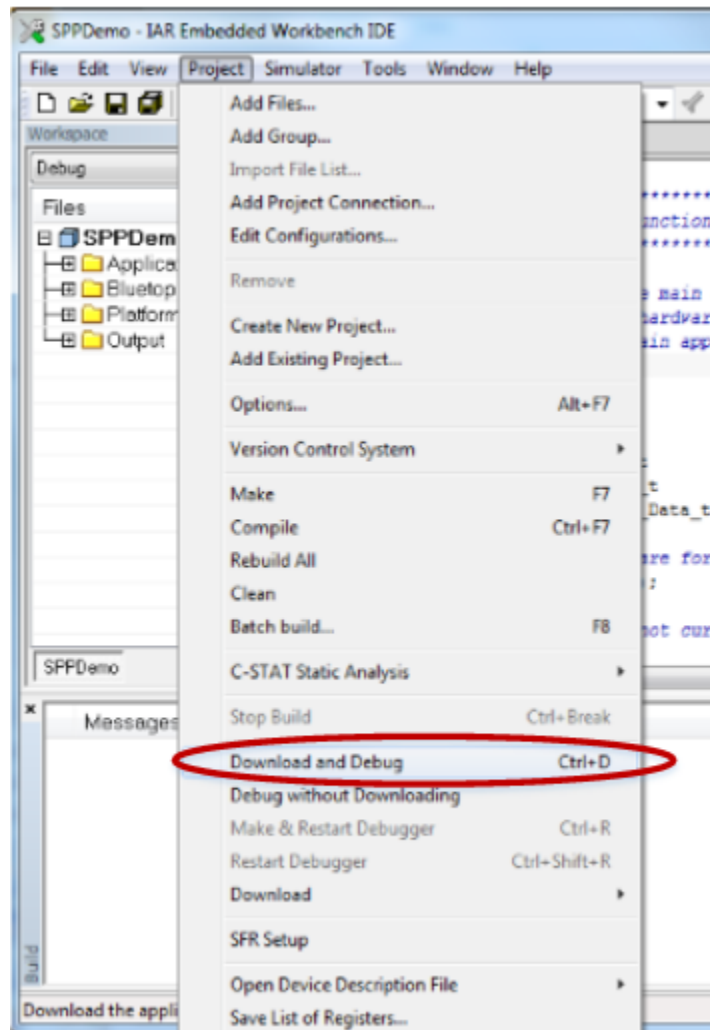

Figure 11. Download and Debug
7. Select *Download and Debug* from the *Project* tab or the play icon (see Figure 11).